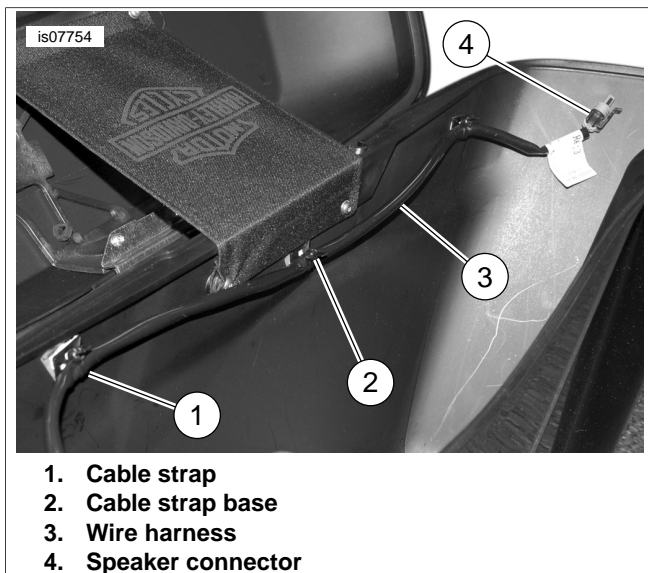

Figure 9. Speaker Harness Routing
9. See Figure 9. Clean the inside top surfaces of the saddlebag with a mixture of 50-70 percent isopropyl alcohol and 30-50 percent distilled water. Route the saddlebag speaker harness inside the left saddlebag leaving enough slack to open the cover. Secure with cable straps and bases as shown. If cover speakers are not used, bundle the unused wire next to amplifier on the outboard side. Secure with cable strap and base.
- b. The LH cover speaker connection is made inside the LH saddlebag as part of the (69200488) harness. See figure 9.